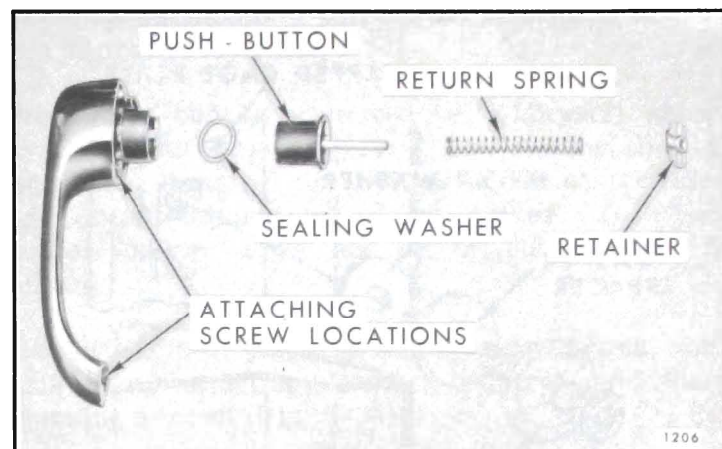
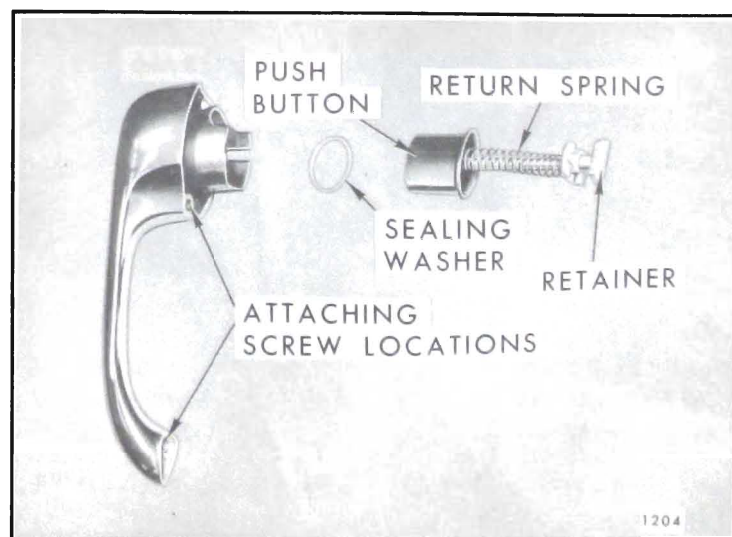

Fig. 7-30—Front Door Outside Handle
Fig. 7-31—Rear Door Outside Handle
2. Depress retainer slightly and turn 1/4 turn either direction. Remove retainer, spring, push button and shaft, and sealing washer from handle (Fig. 7-30 for front door handles, Fig. 7-31 for rear door handles).